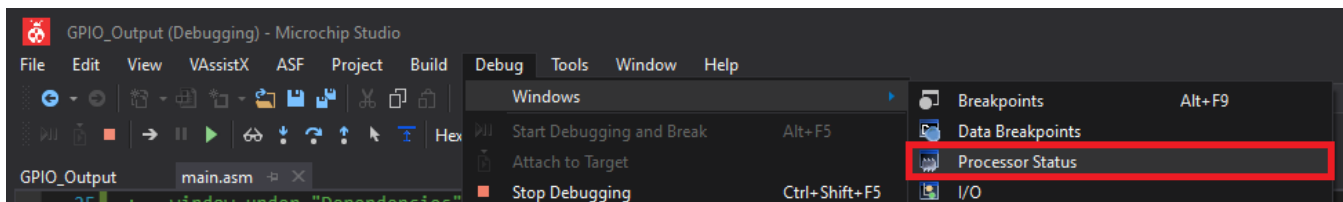

Figure 14: Opening the Processor Status Window.
- Open the *Processor Status* view by navigating to **Debug** → **Windows** → **Processor Status**. Your screen should now resemble *Figure 14*. It is likely available by default.